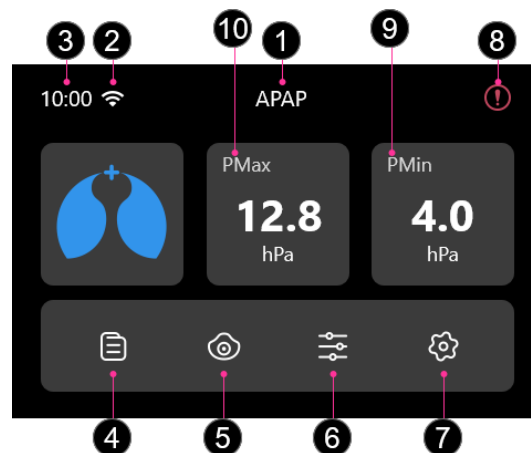

Figure 4-1 Patient Standby Interface
1. Ensure power is supplied to the device. The first screen to display will be the Resvent logo, within 5 second followed by the patient standby screen (See Figure 4-1).